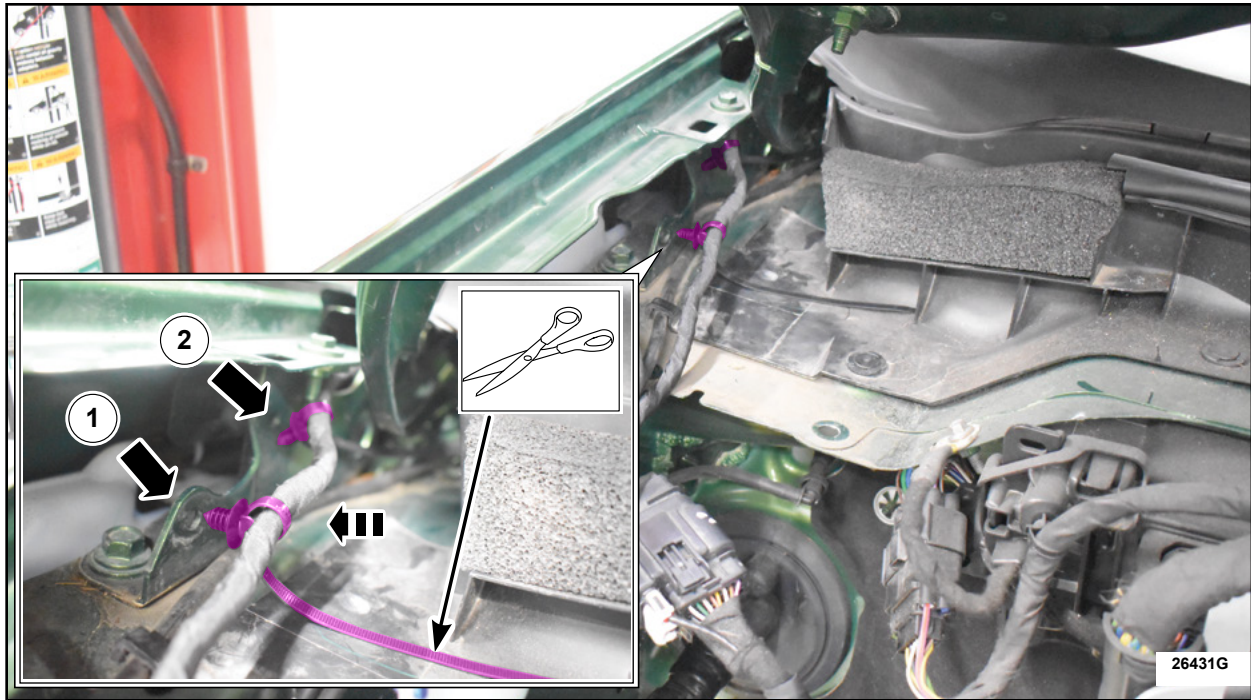

FIGURE 7
12. Using 2 of the wire harness tie strap retainers, affix the wire harness to the 2 pre-drilled holes located on the hood hinge. Using a cutting tool, cut the excess length from the wire harness strap retainers. See Figure 7.